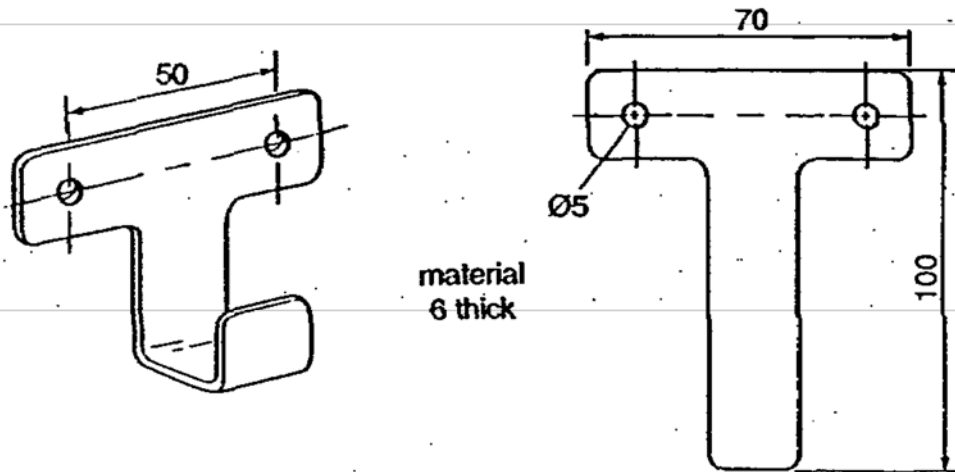

Fig. 1
1. Fig. 1 shows details of a hook made from 6 mm thick plastic.